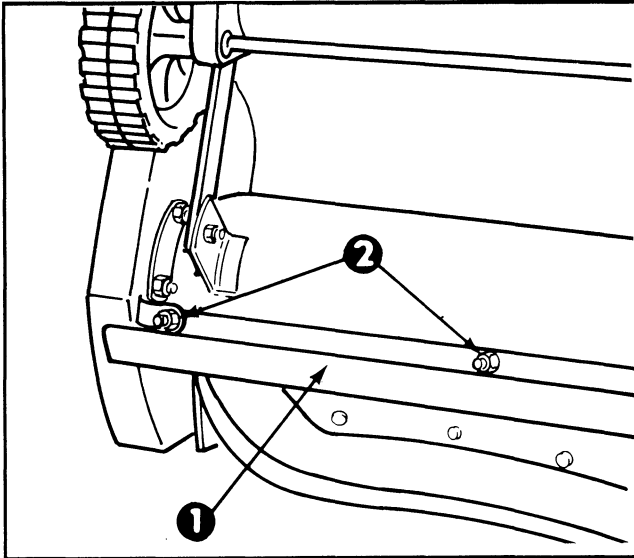

Figure 12
3. Tip snowthrower up onto its nose. Remove carriage bolts and locknuts holding scraper in place (Fig. 12). Remove scraper by sliding to right and down.